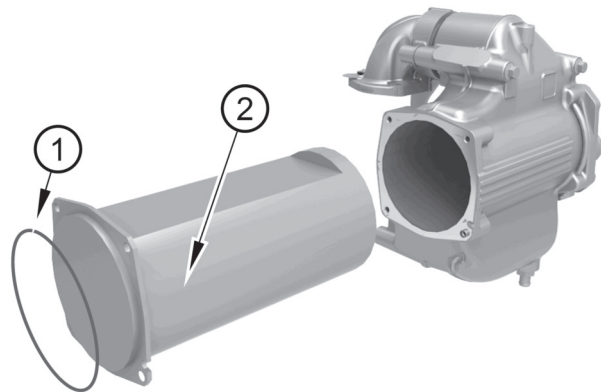

Figure 27
1. Remove O ring seal (figure 27 item 1) and tubestack (item 2).